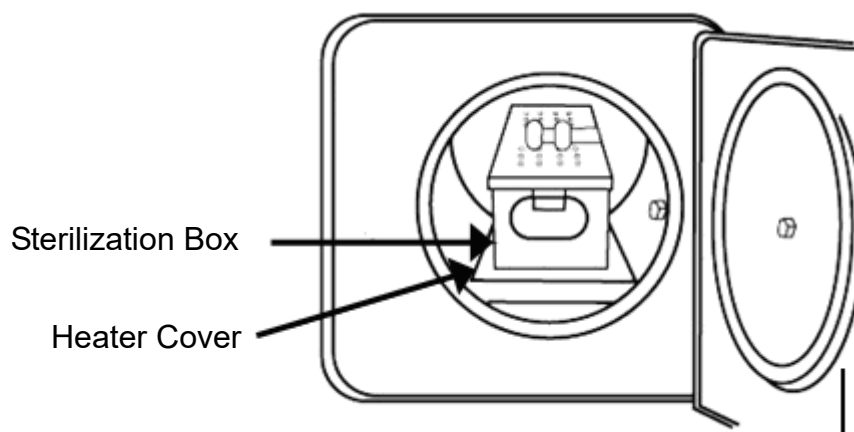

Figure 29
- C. Install the Sterilization Box as Figure 29. (standard accessory).